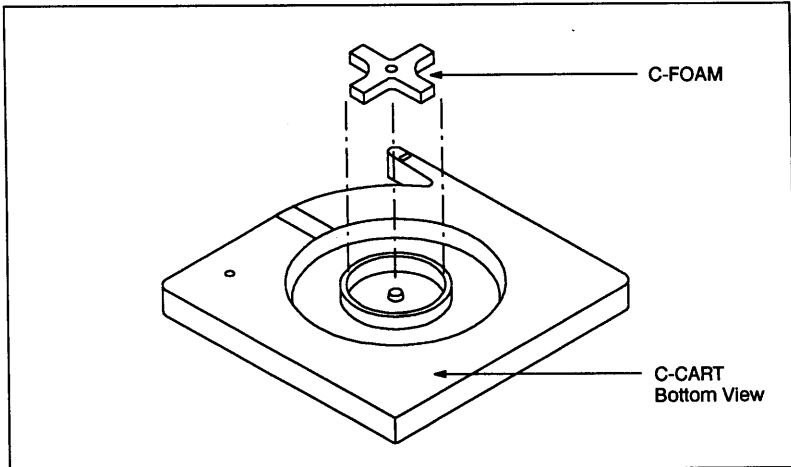

Figure 7-2. C-FOAM Installation
- c. Affix the new C-FOAM glue surface toward the C-CART. See FIGURE 7-2.